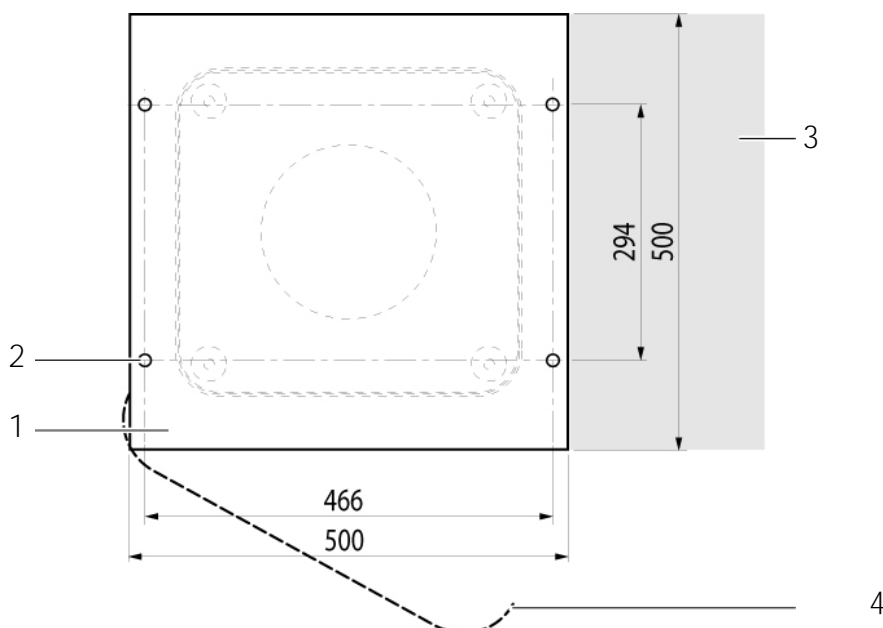

Fig. 4: Drilling template
Before CHM 15k installation may begin, diameter 12 holes and dowels (4 dowels included in delivery) have to be made and inserted in accordance with the drilling template (Fig. 4).
4. Place the CHM 15k in the mounting position (vertical) onto its concrete base. As you do this, pay attention to the outer door position in relation to the local power connection box (see Fig. 4).